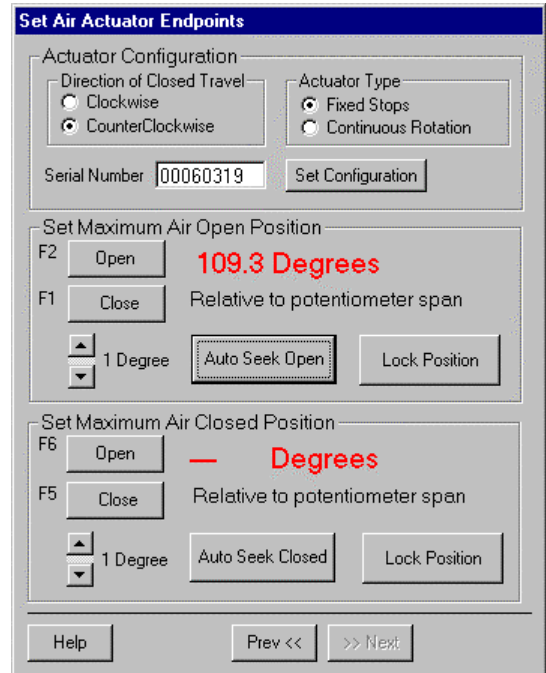

Fig. 10. Set Configuration.
2. Set Configuration (Fig. 10):